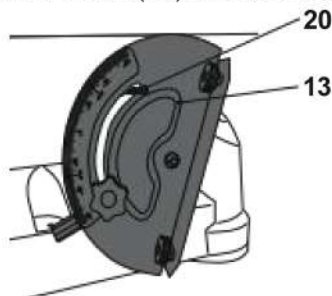

Fig. 8
- > If necessary, hang the Miter fence (13) on the bracket (20 (fig. 8) .